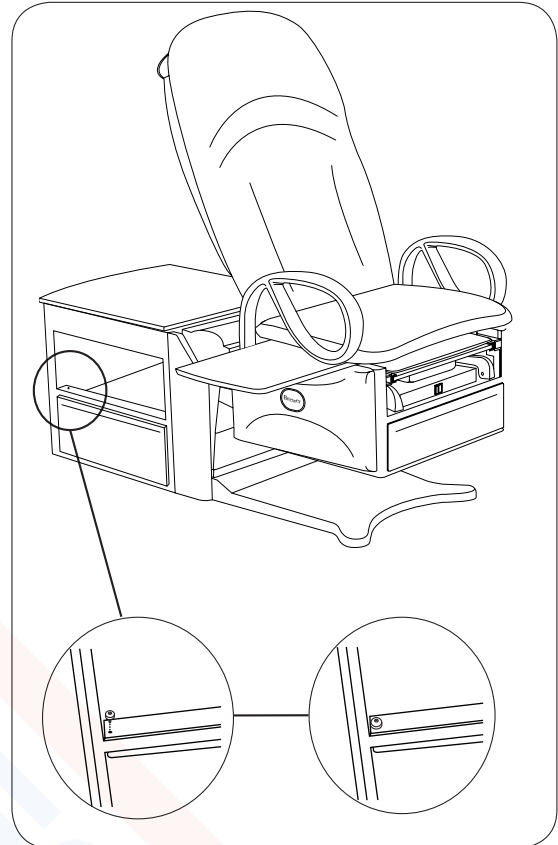

Figure 34. Drawer Stops
Two storage drawers are built into the table cabinet for supplies (Figure 34). The drawers may be pulled out from either side of the table.
The Brewer Access High-Low Exam Tables are supplied with two drawer stops for the side pass through drawers. If you wish to restrict the drawers to opening only on one side, simply install one drawer stop per drawer on the opposite side the drawer is to be opened (See Figure 34.)
2. Screw in one drawer stop, one for each drawer on opposite side of cabinet. (Figure 34).